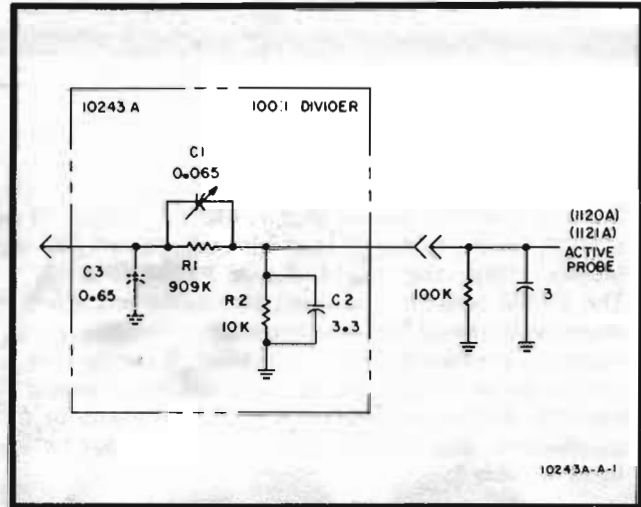

Figure 2. Model 10243A Schematic
8. The schematic of the Model 10243A is shown in Figure 2. The major components of the divider are resistor R1 and a metal sleeve which is spring loaded to hold R1 in place. The capacitance of C1 is the capacitance